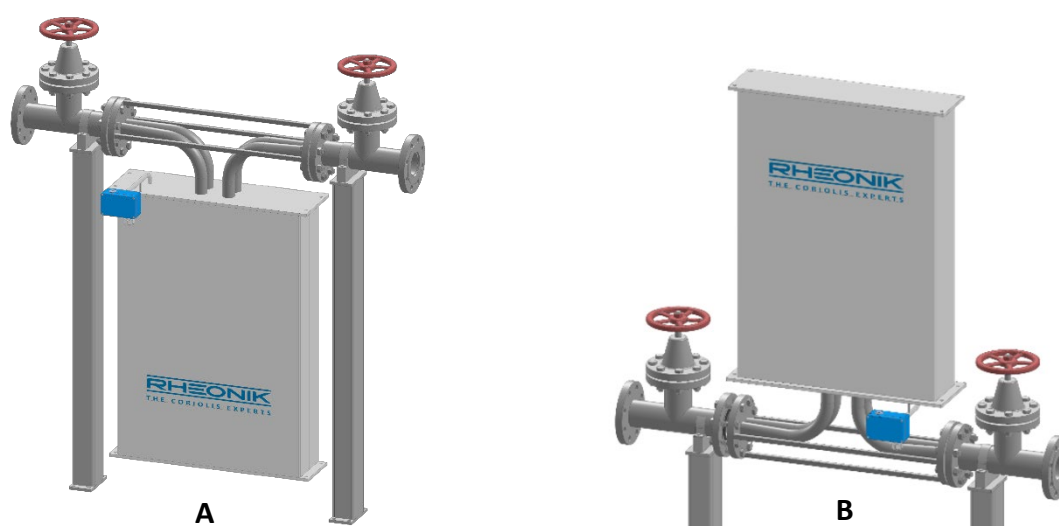

Figure 8: Installation positions for liquid (A) and liquid applications with solid particles/gas applications (B)
- *Liquid applications:* For liquid measurements, the RHM sensor should be installed at a low point in the pipe system with its measurement tubes pointing downwards as this will prevent gas bubbles collecting in the sensor. The presence of gas bubbles can reduce the performance of the sensor for both mass flow and density. See the recommended orientation in Figure 8 (A).
- *Liquid applications with solid particles in the fluid:* If there is a risk that the liquid contains (heavy) solid particles, the RHM sensor should be installed at a high point in the pipe system with its measuring loops pointing upwards to avoid the collection of the particles in the sensor. See the recommended orientation in Figure 8 (B).
- *Gas applications:* For gas measurements, the RHM sensor should be installed at a high point in the pipe system with its measuring loops pointing upwards to avoid condensation or other liquids collecting in the sensor. See the recommended orientation in Figure 8 (B).